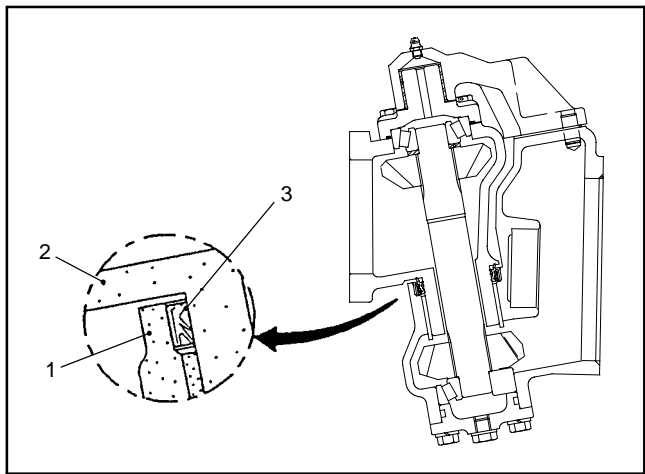

Figure 22
1. Coat new shaft seal with grease and install in axle case as shown (Fig. 22).